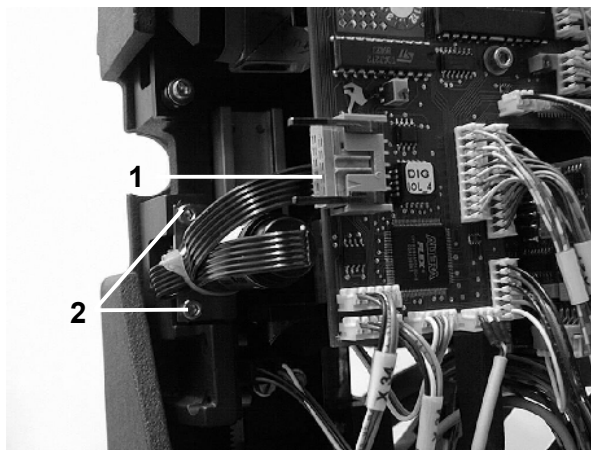

Fig. 17
- Disconnect plug-in connection ((1) Fig. 17).
- Unscrew screws ((2) Fig. 17) and remove the motor.
- Insert the motor and slightly tighten screws ((2) Fig. 17).
- Re-establish plug-in connection ((1) Fig. 17).